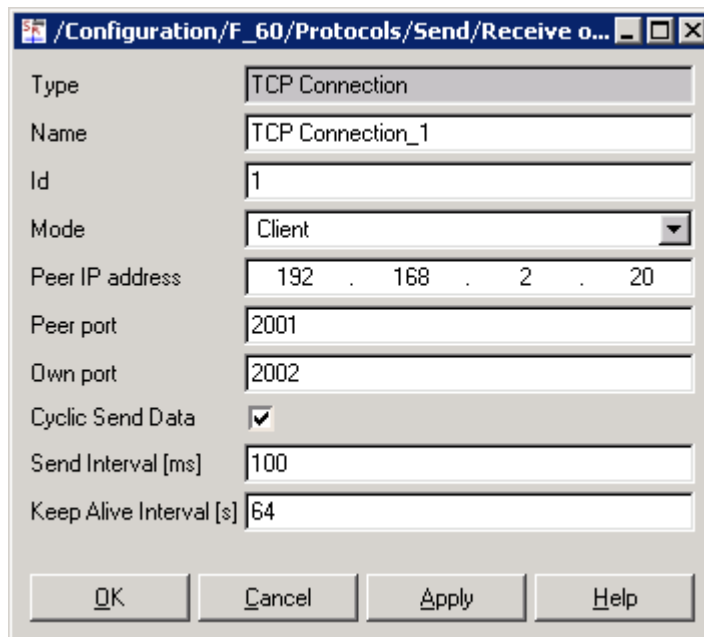

Figure26: The HIMatrix F60 is the active communication partner (Client)
- ❑ Configure the properties as in Figure26: .